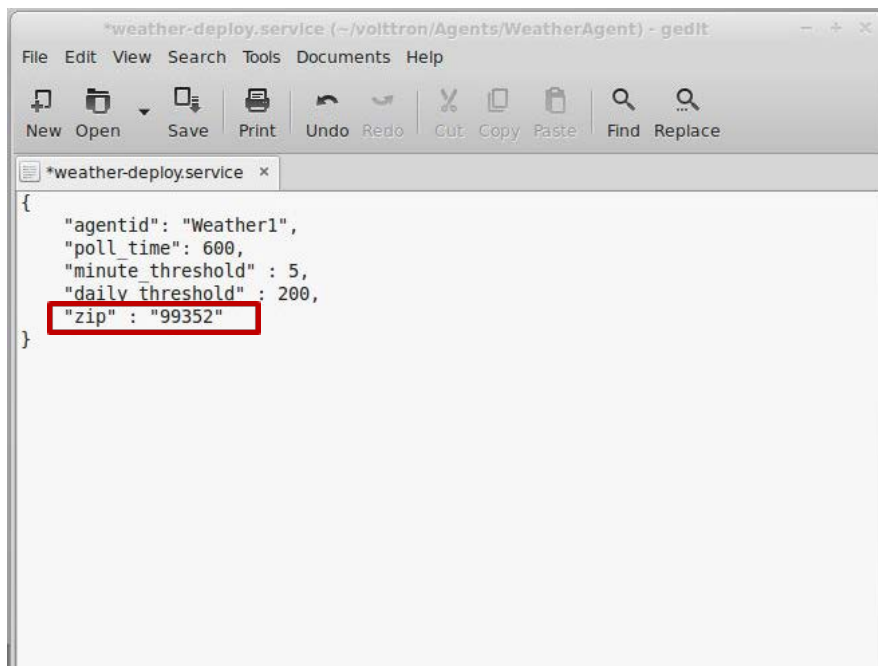

Figure 24: Entering Zip Code for the Location
4. Open the Weather agent's configuration file, Agents/WeatherAgent/config, and edit "zip" field, as shown in Figure 24: